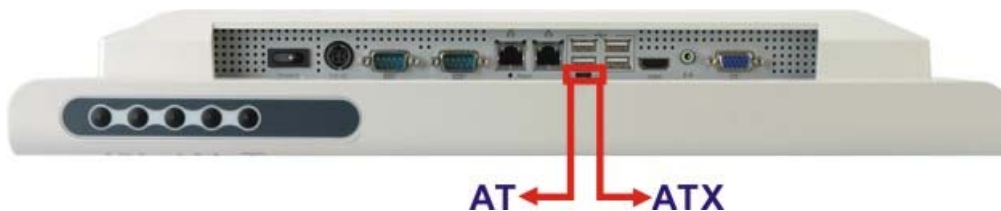

Figure 3-21: AT/ATX Switch Location
AT and ATX power modes can both be used on the POC-17i/19i Series. The selection is made through an AT/ATX switch on bottom panel (**Figure 3-21**). To select AT mode or ATX mode, follow the steps below.
Step 1: Locate the AT/ATX switch on the bottom panel (**Figure 3-21**).